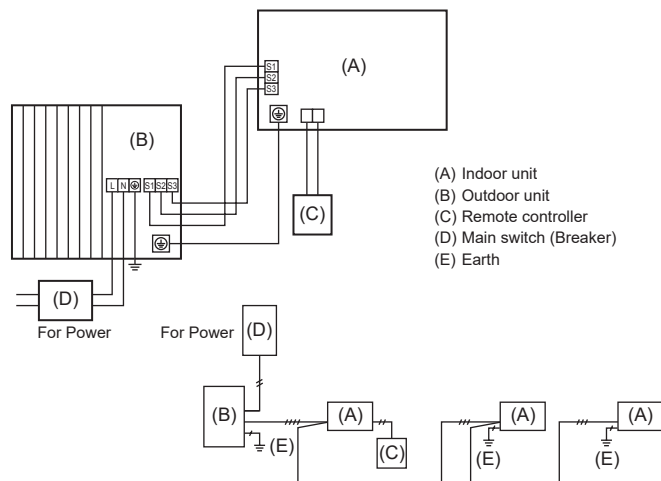
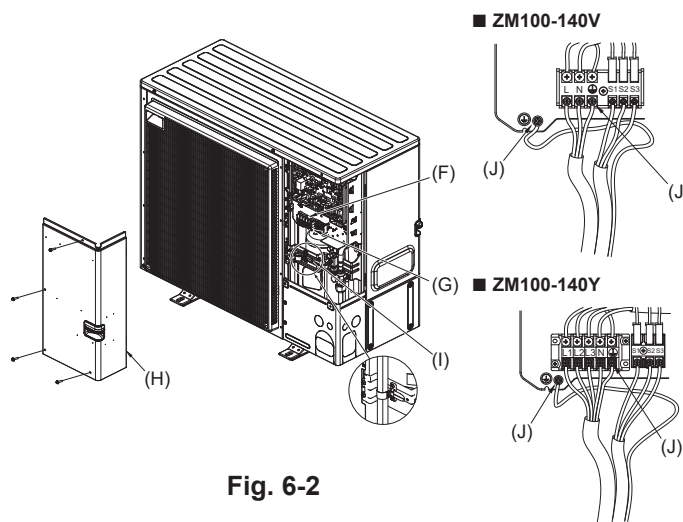

Fig. 6-1
Fig. 6-2
### 6.1. Outdoor unit (Fig. 6-1, Fig. 6-2)
- Wire the cables referring to the Fig. 6-1 and the Fig. 6-2.